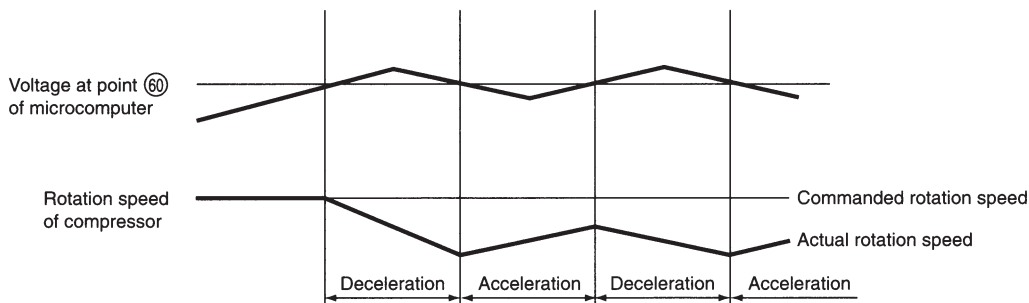

Fig. 8-4
- Voltage generated from current flowing in shunt R is balanced by R245 and C220 and input to pin ⑤ of IC4. Then voltage-amplified value is input to pin ⑥ of microcomputer to compare with internal data of EEPROM. When values correspond, microcomputer enters overload control.
- Fig. 8-4 shows the rotation speed control. When value at pin ⑥ of microcomputer exceeds set value, rotation speed of compressor decelerates to reduce load regardless of rotation speed commanded from indoor unit.